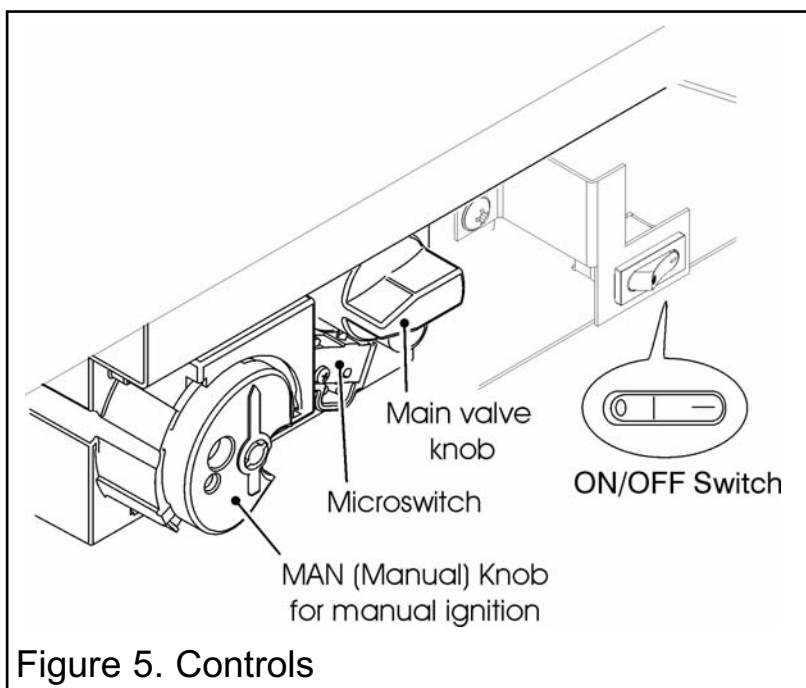

Figure 5. Controls
2. The 'main valve knob' is the knob on the right hand side (See figure 5). Turn this knob to the 'OFF', fully clockwise position .
3. The 'manual knob' is the knob on the left hand side (See figure 5). Turn this knob to the 'OFF', fully clockwise  position.
5. Wait five (5) minutes to clear out any gas. Then smell for gas, including near the floor. If you smell gas STOP! and follow the safety information below.